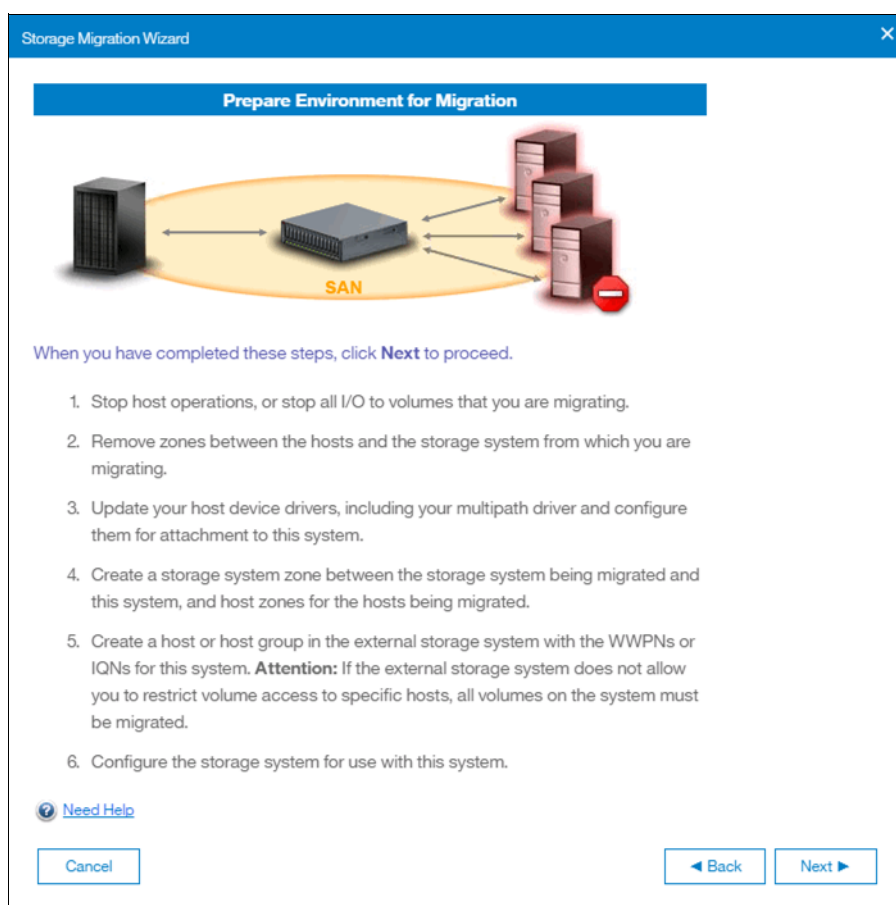

Figure 7-14 Prepare the migration environment
- ▶ The subsequent panels in the migration wizard, as shown in Figure 7-14 on page 337, direct you to remove the host zoning to the external storage and create zones between the Lenovo Storage V3700 V2, V3700 V2 XP, and V5030 and the external storage. However, these steps must be performed *before* you start the wizard. For the list of instructions to complete before you start the data migration wizard, see “Preparing the environment for migration” on page 337 and “Mapping storage” on page 337.
Figure 7-14 shows the Prepare Environment for Migration panel. Follow the instructions that are provided in this panel carefully. When all of the required tasks are complete, click **Next**.